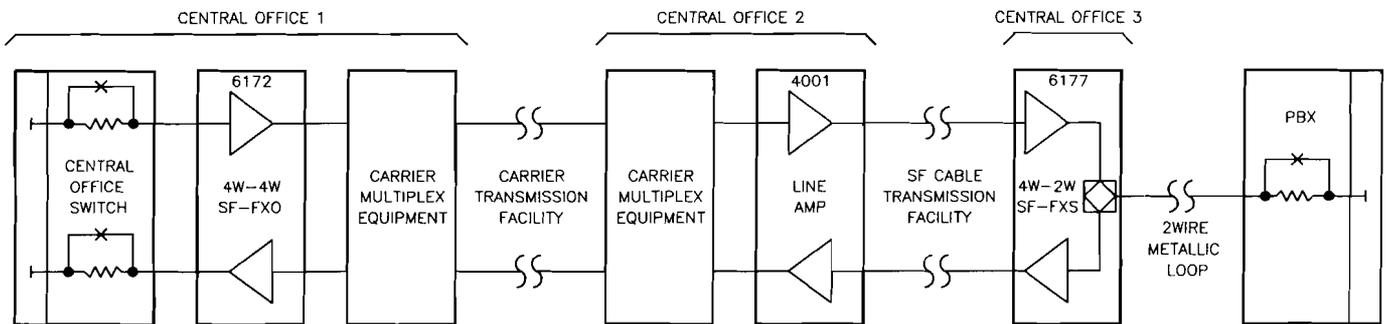

figure 2. Typical foreign-exchange (FX) application of 6177 module
2.01 The 6177 4Wire-to-2Wire SF-to-FXS Intermediate Repeater module is designed primarily to interface a 4wire transmission facility that uses SF signaling with a 2wire metallic link that uses FXS signaling. This link can be either a station loop or a PBX trunk (loop-start or ground-start) that terminates at the station end of an FX or OPS circuit. The 6177 module combines the functions of a 4wire line amplifier, an SF transceiver, an SF-to-FXS signaling converter, and a 4wire-to-2wire hybrid terminating set. No external interface circuitry is required because the 6177 is a complete SF signaling and terminating circuit, less power and ringing, on a single Type 10 card. Thus, the module provides not only bidirectional signaling conversion but also active transmission interface (impedance matching, level control, amplitude equalization, and 4wire-to-2wire conversion) between the SF facility and the FXS link. Figures 2 and 3 show typical applications.